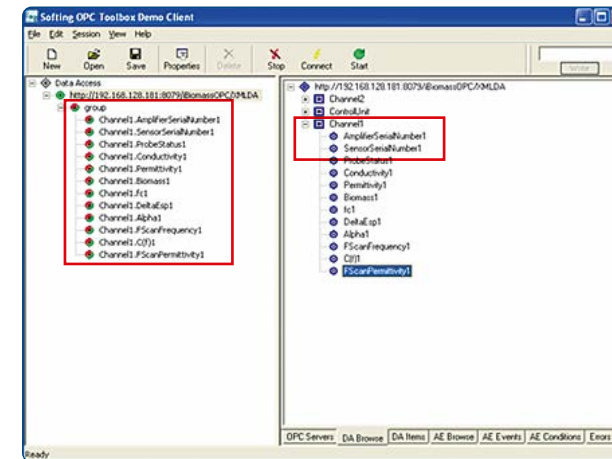

Figure 68: Item selection in the DA Browse tab.
5. Double click on each item that needs to be monitored. Each selected item is added to the list (Figure 68).